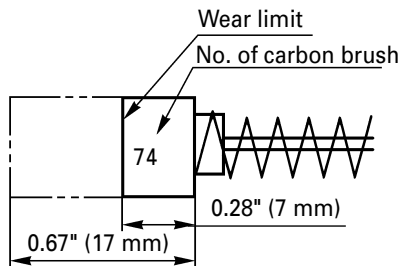

Fig. 18
4. Inspecting the carbon brushes: (Fig. 18)
Use HITACHI carbon brush No. 74 indicated in Fig. 18